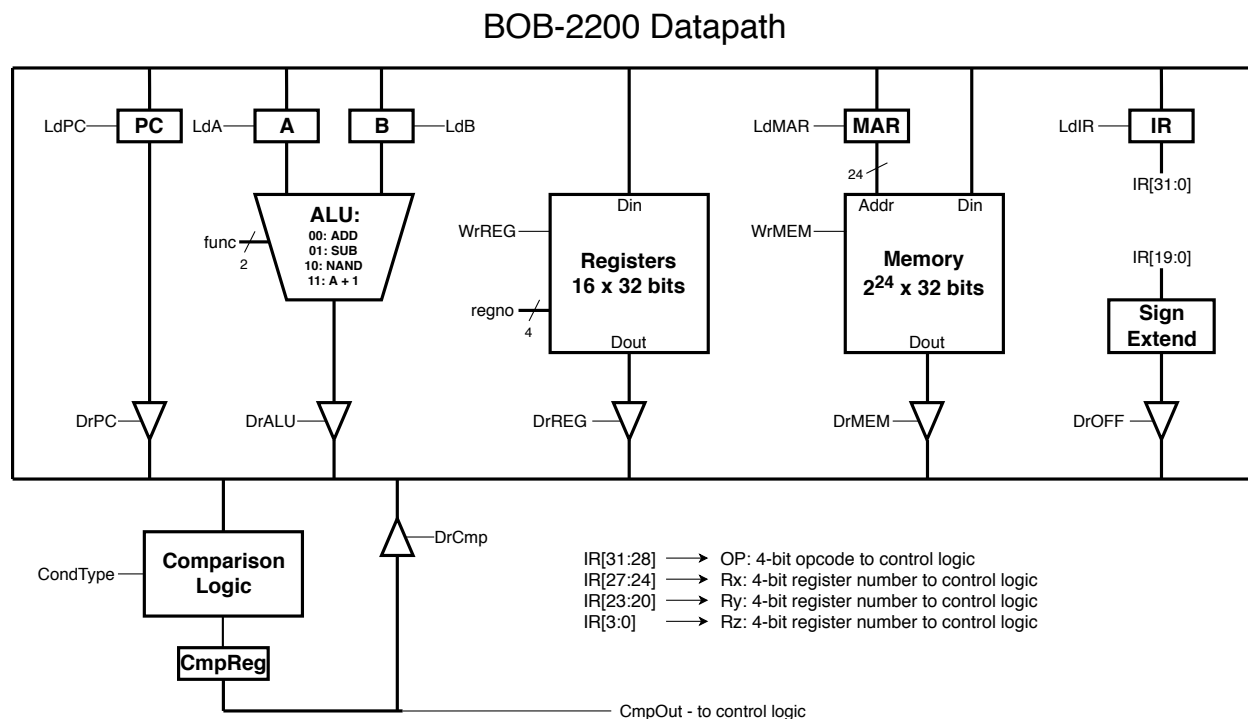

Figure 1: Datapath for the BOB-2200 Processor
2. Using Brandonsim, implement the BOB-2200 datapath. To do this, you will need to use the details of the BOB-2200 datapath defined in Appendix A: BOB-2200 Instruction Set Architecture. You should model your datapath on Figure 1.
The “comparison logic” box in Figure 1 is responsible for performing the comparison logic associated with the BNE and SLT instructions. The comparison logic should read the current value on the bus. When executing BNE or SLT, you should compute $A - B$ using the ALU. While this result of the ALU is being driven on the bus, the comparison logic should read the result $A - B$ and output a “true” or “false” value for either the condition $A \neq B$ or $A < B$ depending on the CondType signal.
2. Implement the Microcontrol Unit using Brandonsim. The appendix contains all of the necessary information. Take note that the input and output signals on the schematics directly match the signals marked in the BOB-2200 datapath schematic (see Figure 1).
3. Connect the completed control unit to the datapath you implemented in Phase 1. Using Figures 1 and 2, connect the control signals to their appropriate spots.